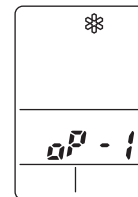

Fig. 30
- ⌘ appears and “oP-1” blinking in the remote controller clock display area. (Fig. 30)